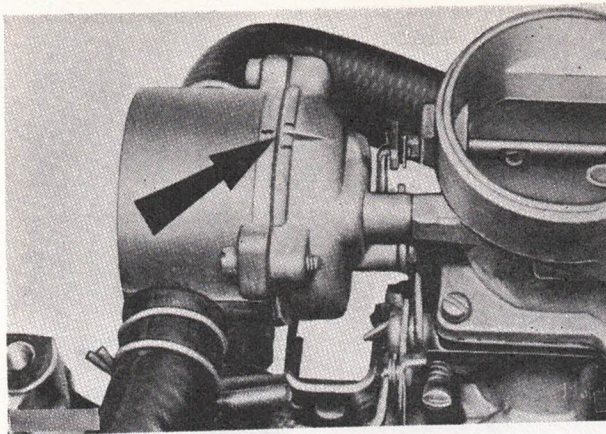
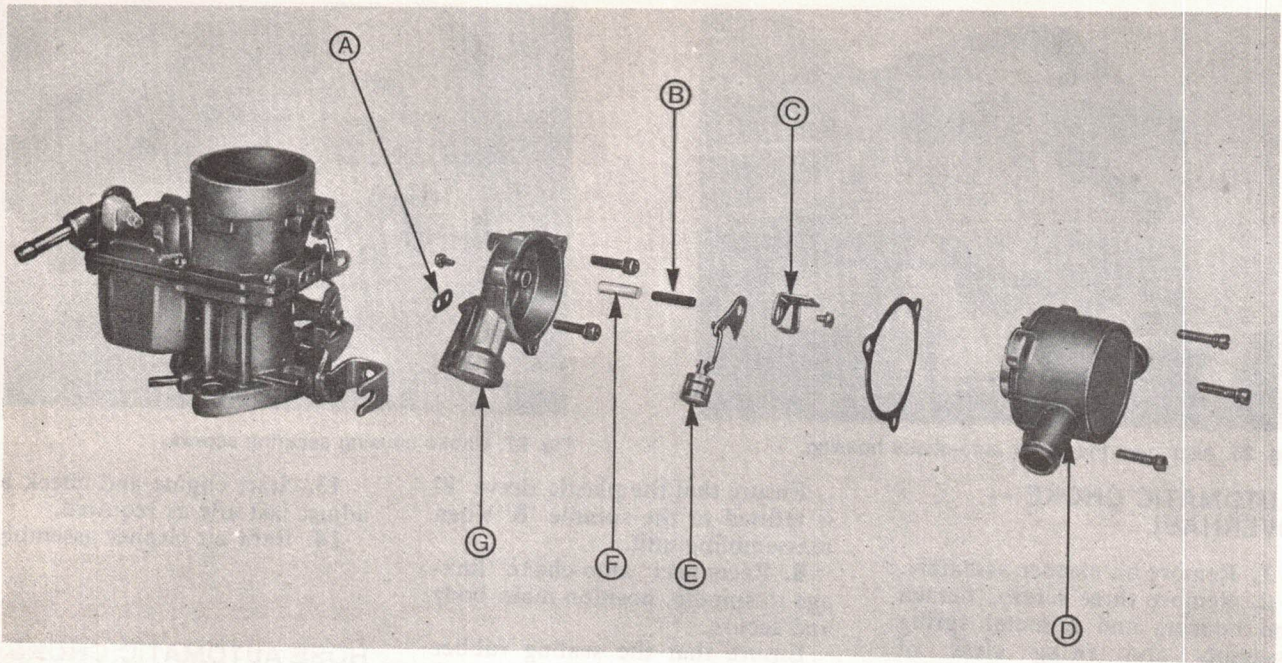

Fig. 25. Alignment marks for auto-choke housing.
Fig. 29. Ford auto-choke assembly dismantled.
Connect choke spring into specified slot on operating link. (refer specifications to ascertain correct slot.) Position housing and loosely fit three retaining screws. Rotate housing till mark on spring housing lines up with centre mark on auto-choke housing. Lock up three screws, Fig. 25.
5. Remove a single screw, detach choke operating spindle and pull out vacuum piston, linkage, Fig. 29.
7. Reassemble vacuum piston, operating spindle and operating linkage, Fig. 29.
Ensure that the sealing rubber ('A' in Fig. 29.) is correctly located between the main choke body and the carburettor when installing unit.
With a new gasket connect choke bi-metal spring into the specified slot on choke operating link, 'C' in Fig. 29. (Refer Technical Data to ascertain correct slot.) Place outer housing in position and loosely fit three retaining screws. Rotate housing till the mark on spring housing lines up with the centre mark on auto-choke housing. Lock up three screws, Fig. 25.